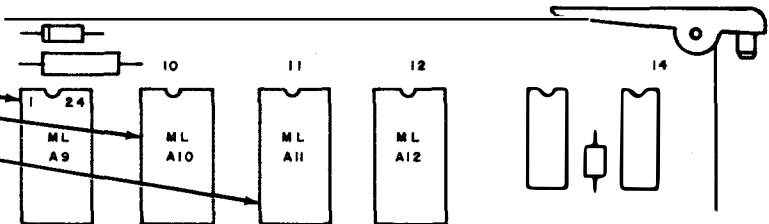

Fig. 3 -- ROM Pack Installation for the 402315 or 402316 Modification Kit
- ② After installation of the 405096 sockets, visually examine the circuit board for solder splashes and/or damaged circuit lands. Repair if necessary.
- ③ Install the ROM packs (Fig. 3) in the respective sockets. Make sure all of the pack pins are inserted into the sockets and are not bent under. Use caution when inserting the packs, because undue force could fracture the case, and/or break off the pack pins. Make sure the index mark on the packs are toward the top of the card. (Pin 1 is in upper left hand corner).